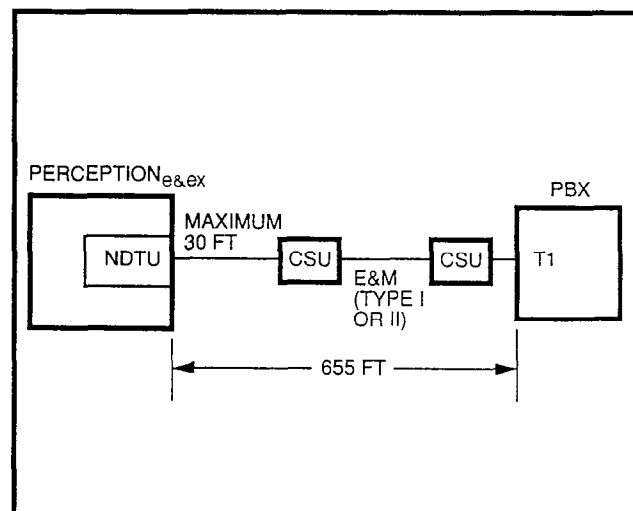

FIGURE 2—DS-1 CONNECTION VIA CSU
- 2) A T1 span can also be used to connect digital TIE trunks (Type I or Type II) between PERCEPTION_{e&ex} and another PBX, with either T1 equipment, or with an analog PBX using channel banks (see Figure 2). A CSU is required at each PBX, if the distance between